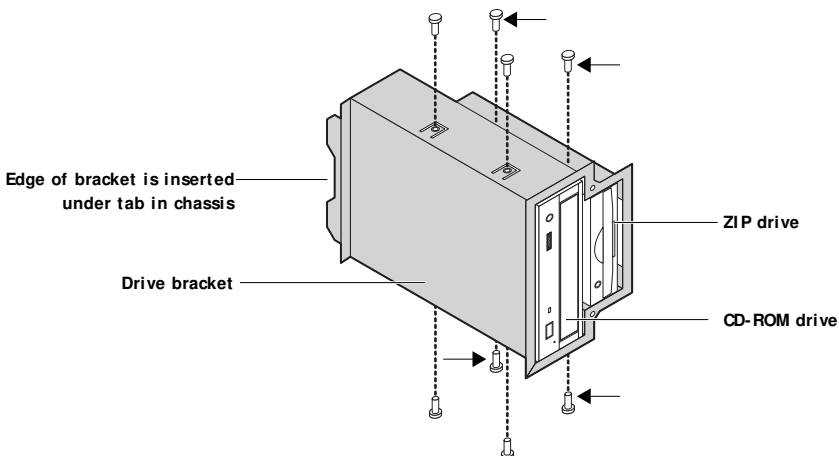

FIGURE 4-30 Replacing the ZIP drive
2. Attach the four screws that secure the ZIP drive to the bracket (see Figure 4-30).